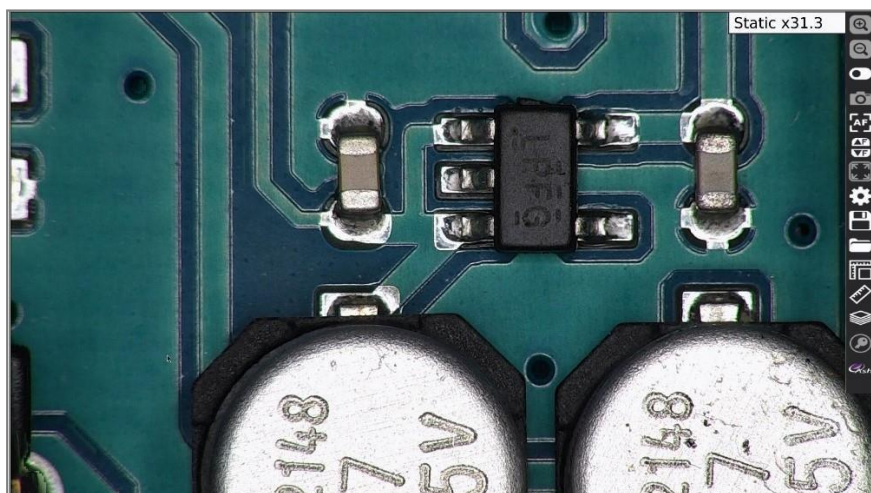

Fig. 21
5. The processed image will now be displayed in static form with all components (heights) in-focus (Fig.21).